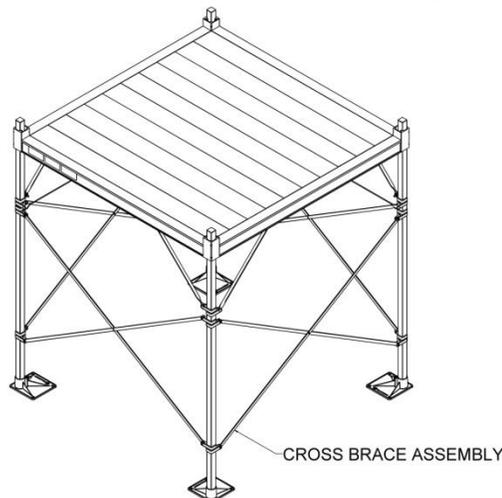

**FIG. 2.7**
- 2.4.3. Use two brace bands to secure the ends of the two angle braces nearest the twist to the support tube using a 5/16" bolt, flat washer, and nut (FIG. 2.7).
- 2.4.4. Opposite ends of the braces are attached to the bottom of the platform side rail at 90° to each other using a 1/4" square drive pan head self-drilling screw (FIG. 2.7).